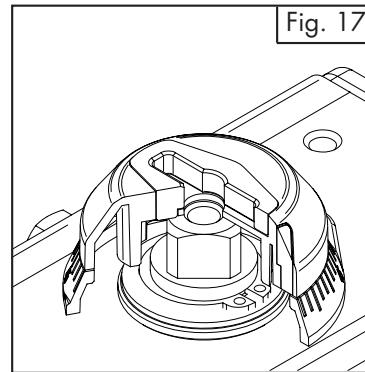

Fig. 17
E) Assembly of graduated ring and position indicator (Part N° 19.19.0,19.1), figures 17,18 and 19:
- Screw the indicator screw (39) if assembled.